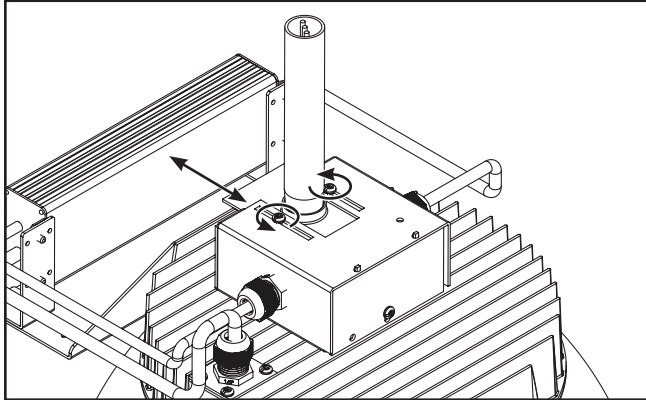

Figure 8.
- Loosen the 2 screws on top of the adjustable mounting plate by 1.5 turns, then slide the adjustable mounting plate until luminaire hangs level, using water level to assist if necessary. Retighten the 2 screws. (Figure 8)